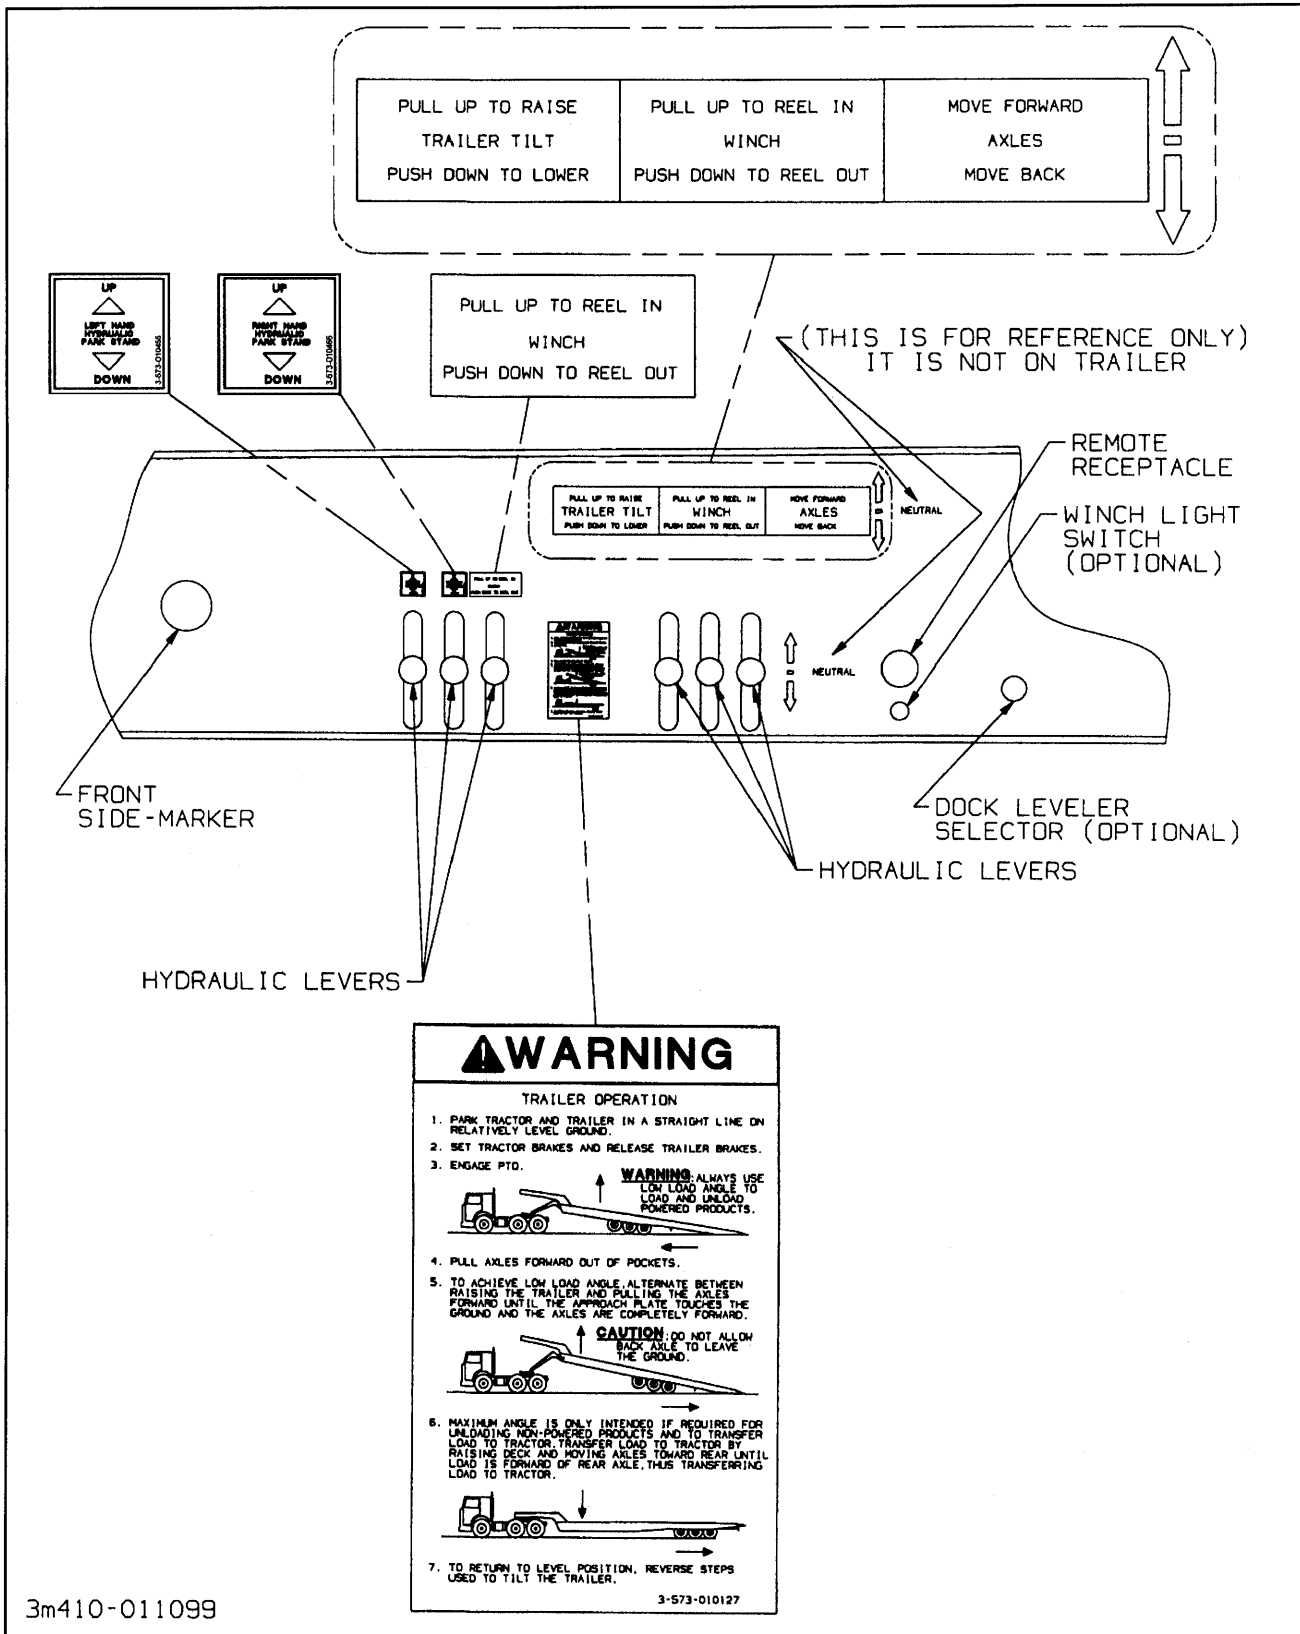

Figure 3-4 Hydraulic Controls
- For pin drop landing gear, activate the **TRAILER TILT** lever "UP" (See Figure 3-4) until weight is off the landing gear. Raise landing gear. (See Section 3-9 for operation of **TRAILER TILT** lever.) Secure each leg with a park stand retaining pin in the full "up" position before transporting.